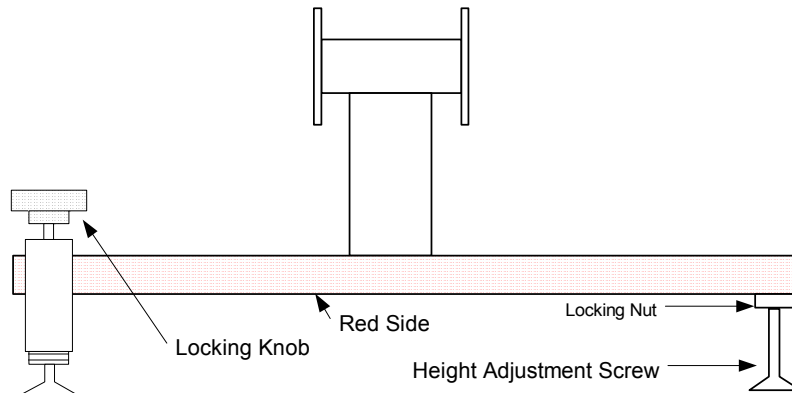

Figure 8
1. Place the bar on a firm surface. One side of the bar has a red dot (called the red side). Place the bar with the red side on the left.(Fig. 8)